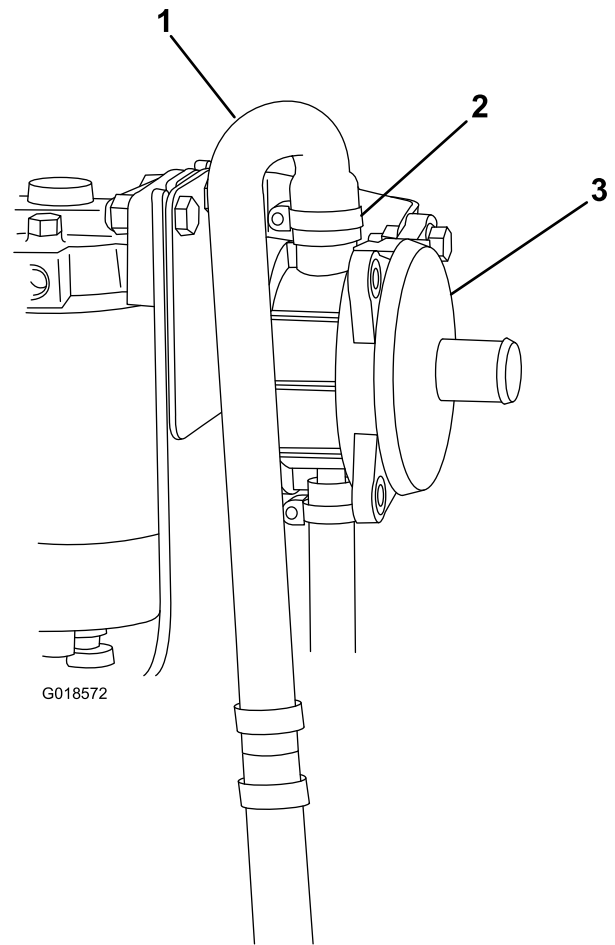

Figure 6
2. Install the curved end of the vent hose to the breather, and position the vent hose as shown in Figure 6, away from other machine components that could cause the hose to wear out at points of contact.